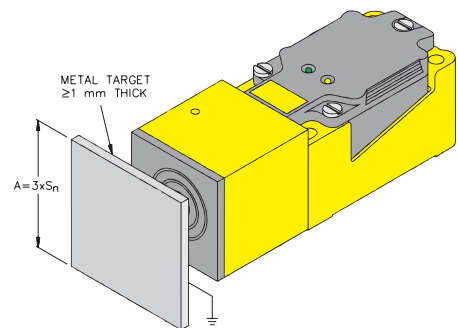
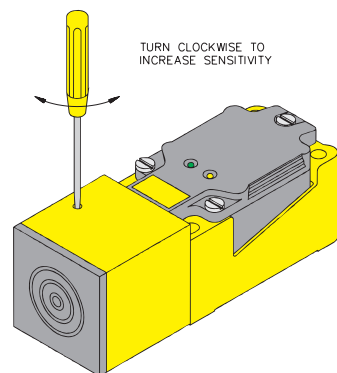

Figure 1
Figure 2
2. **Adjustment of the potentiometer** – turning the potentiometer in a clockwise direction increases the sensitivity of the sensor. The potentiometer is factory-set for an operating distance of 0.7 to 0.8 S_n to a grounded standard target (Figure 1). It should be adjusted in increments of no greater than a quarter-turn (Figure 2). Increasing the sensitivity results in a greater operating distance to both conductive and non-conductive targets.